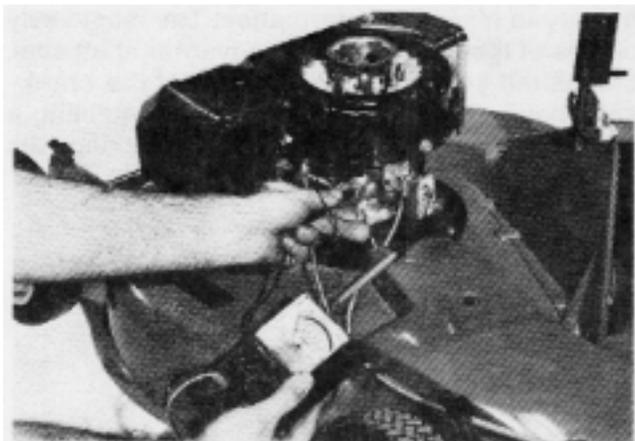

Figure 3-2
3. Disconnect the wire leading to the ignition switch and connect a continuity tester to the switch wire and engine frame (Figure 3-2) with the control bar in the "STOP" position there should be continuity through the switch. With the control bar in the "START" position, there should be NO continuity through the switch.